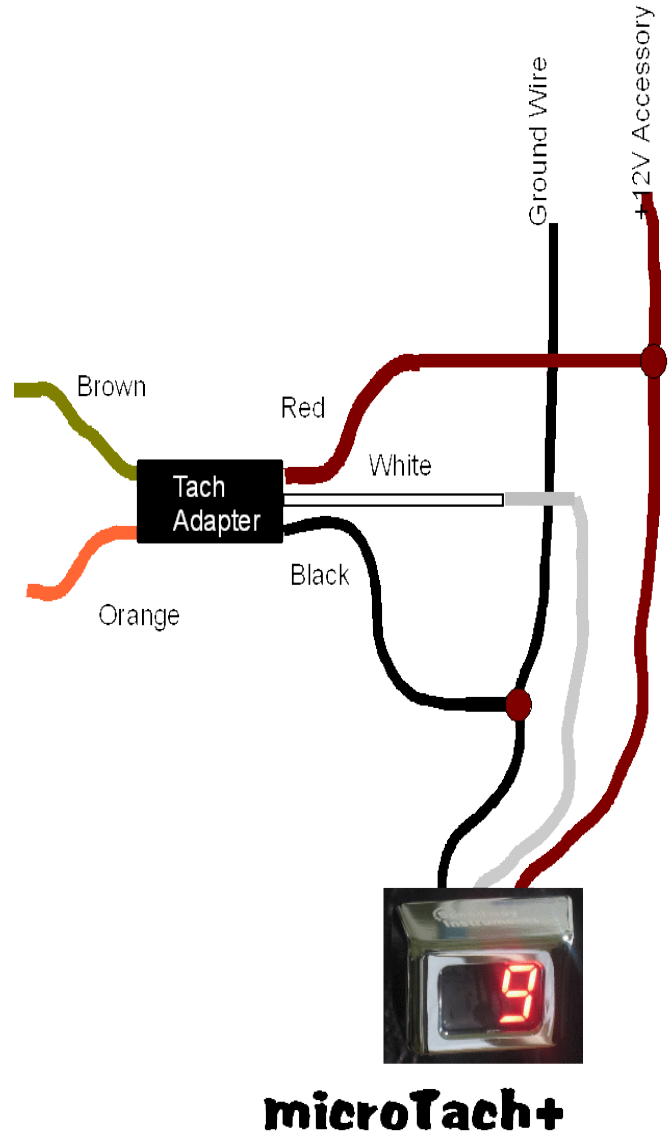

Figure 4: Tachometer to tach adapter diagram
11. Use splice connectors to attach Red wire from microTach+™ tachometer and Red tach adapter wire to +12V instrumentation or accessory power. Attach Black wires from microTach+™ tachometer and tach adapter to Ground wire. Attach White wire from microTach+™ tachometer to the white signal from tach adapter. See Figure 4.